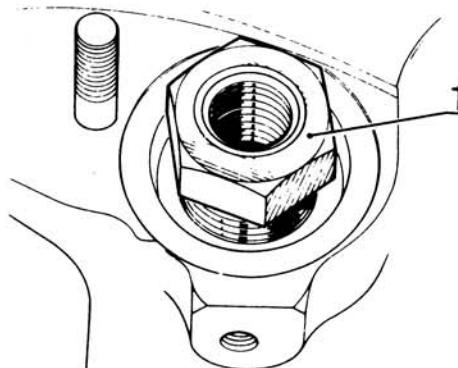

FIGURE 45. DISTRIBUTOR SLEEVE
Lift out distributor. Screw the extractor sleeve into the distributor sleeve (1) (Figure 45).